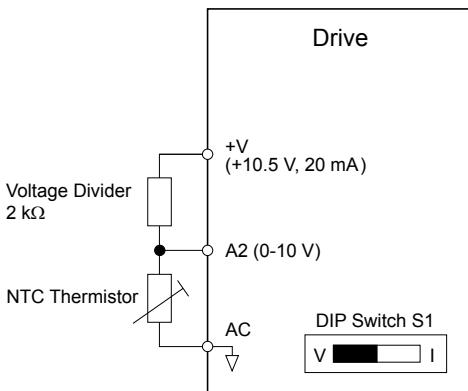

Figure 5.93 Motor Protection Circuit Using NTC Input
**Figure 5.93** shows a circuit using the NTC thermistor and the terminal resistance values. Set DIP switch S1 on the drive to “V” for voltage input when wiring the NTC thermistor input to terminal A2 on the drive.